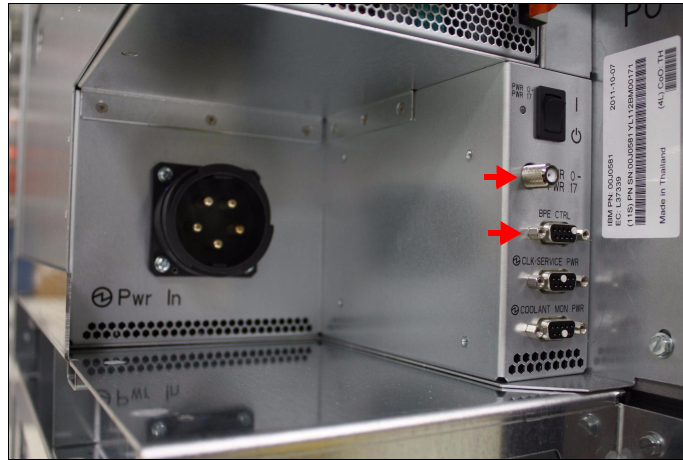

Figure 1-16 BPE environmental cable connections
3. Connect the F-type cable to the coaxial port, labeled PWR 0-PWR 17, and connect the D-type cable to the BPE CTRL port. The other ports (CLK/SERVICE PWR and COOLANT MON PWR) are not used at this time. Figure 1-16 shows the environmental cable connections.